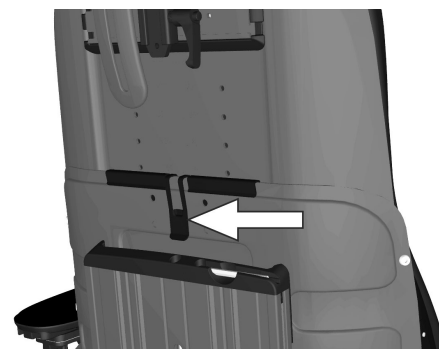

Figure 481. The upper section of the backrest is secured with a locking mechanism.
6. Slide the upper section of the backrest down until secured in position by the locking mechanism. See fig. 481.